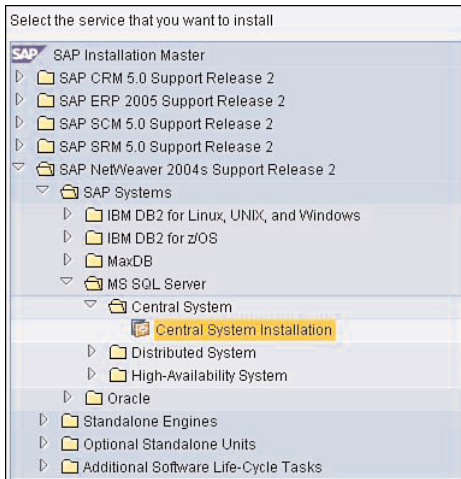

FIGURE 24.4 The Central System Installation installs all the SAP instances on a single host.
2. Select the Central System Installation, as shown in Figure 24.4, and click Next.